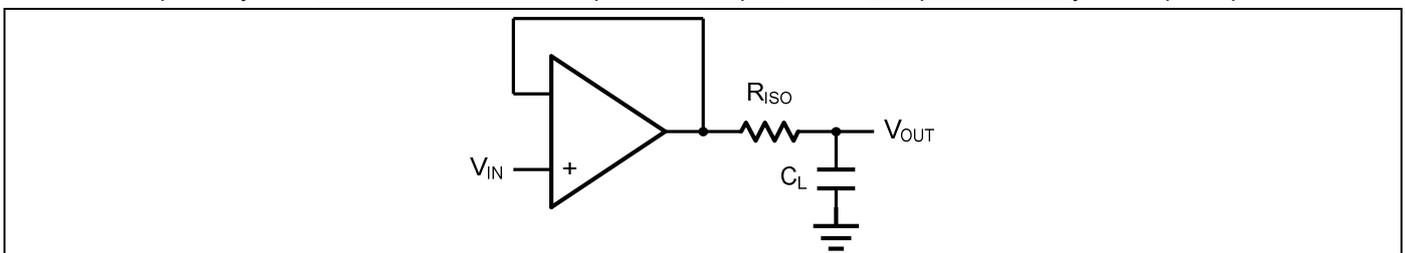
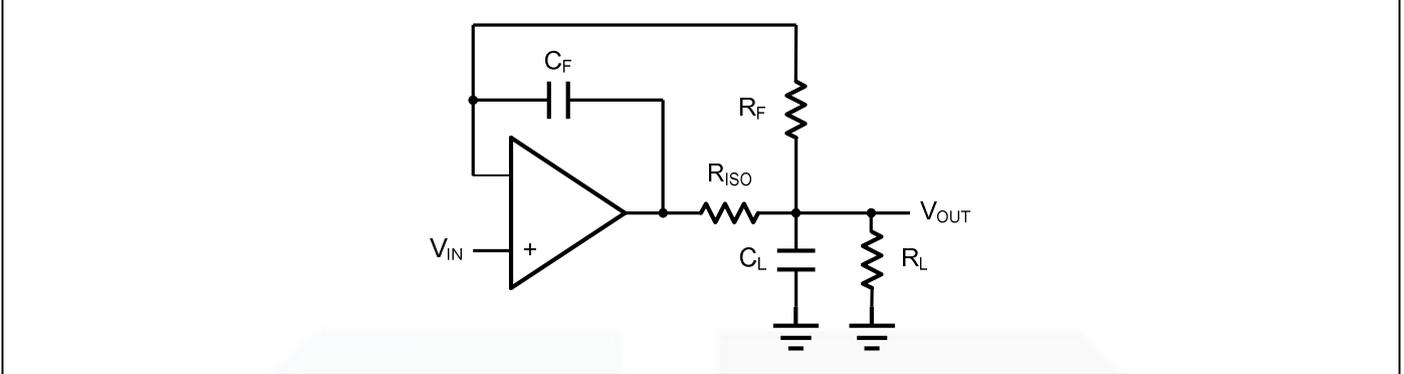

Figure 2. Indirectly Driving a Capacitive Load Using Isolation Resistor
Figure 3. Indirectly Driving a Capacitive Load with DC Accuracy
The GS863x family is optimized for bandwidth and speed, not for driving capacitive loads. Output capacitance will create a pole in the amplifier's feedback path, leading to excessive peaking and potential oscillation. If dealing with load capacitance is a requirement of the application, the two strategies to consider are (1) using a small resistor in series with the amplifier's output and the load capacitance and (2) reducing the bandwidth of the amplifier's feedback loop by increasing the overall noise gain. Figure 2. shows a unity gain follower using the series resistor strategy. The resistor isolates the output from the capacitance and, more importantly, creates a zero in the feedback path that compensates for the pole created by the output capacitance.
The circuit in Figure 3 is an improvement to the one in Figure 2. R_F provides the DC accuracy by feed-forward the V_{IN} to R_L . C_F